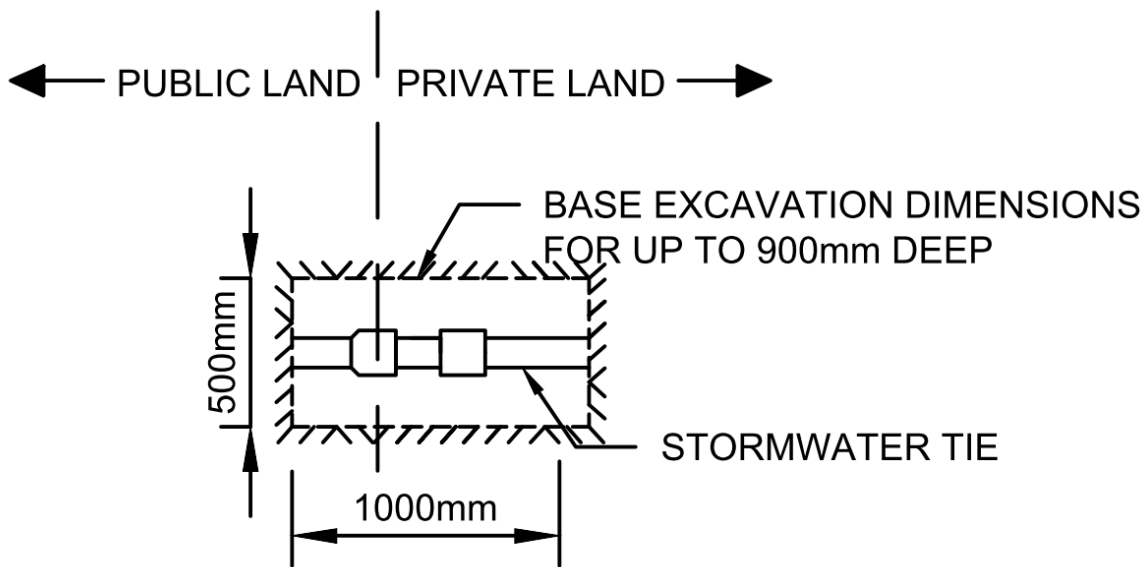

Figure 5 – Plan View of Excavation Base Size for 0mm – 900mm depth
- (a) Excavation depth of 0mm – 900mm should have a minimum 0.5 metre by 1 metre excavated base to expose the stormwater tie. See Figure 5 – Plan View of Excavation Base Size for 0mm – 900mm.